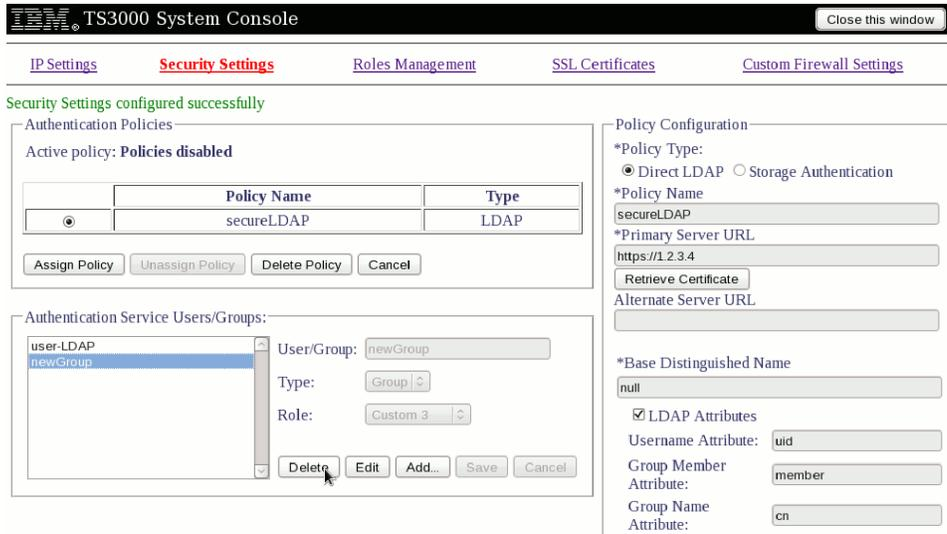

Figure 112. Manage Authentication Service Users-Groups
- **Edition:** Select the desired entry from the list on the right, click on the Edit button, edit the entry and click on the Save button. A message will show if the changes were applied successfully. See Figure 112 on page 82.
- **Addition:** Click on the Add... button, enter the name of the User/Group and its Type and designed Role, click on the Save button. A message will show if the changes were applied successfully. See Figure 112 on page 82.